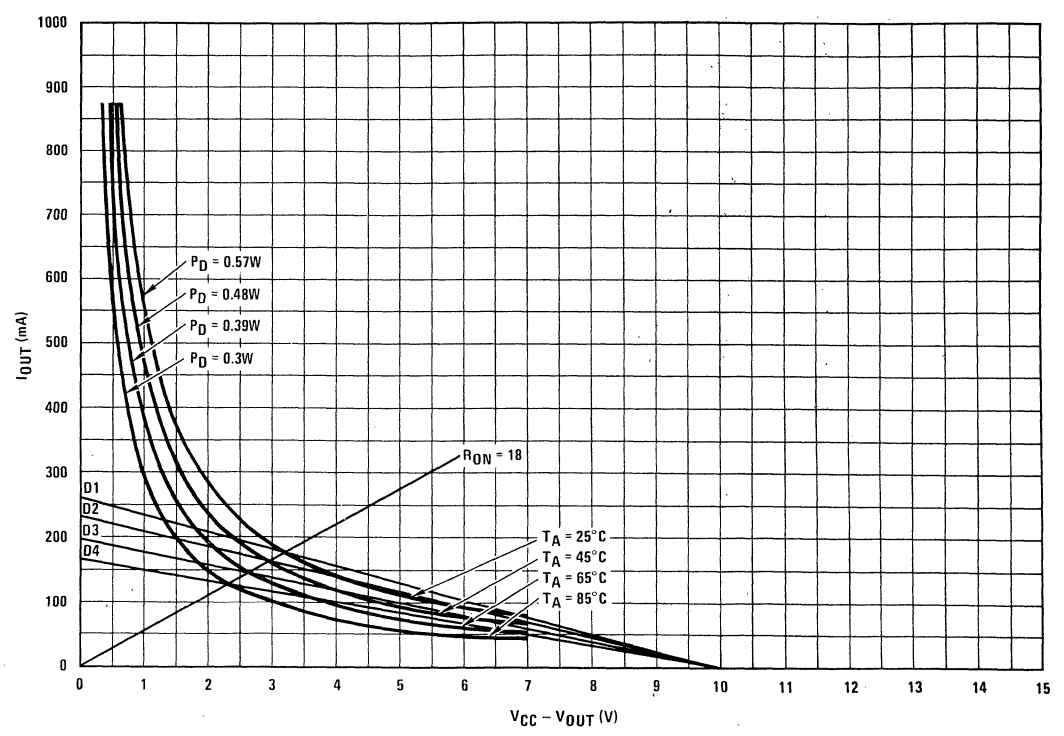

FIGURE 7
The  $R_L(MIN)$  given in (8) may not be a true minimum if the tangent point does not fall inside the specified  $R_{ON}$  region. The actual  $R_L(MIN)$  can be obtained as shown in *Figure 7*. The calculations and results are given in Table II.
Note that the  $R_L(MIN)$  values in Table II are lower than those given by (8). This corresponds to the section on each of the 4 load lines in *Figure 7* which extends beyond the power limit curve at each associated temperature. However, this section on each load line is outside the specified  $R_{ON}$  range. Within the  $R_{ON}$  range, load lines are below the power limits; therefore, safe operation is guaranteed.